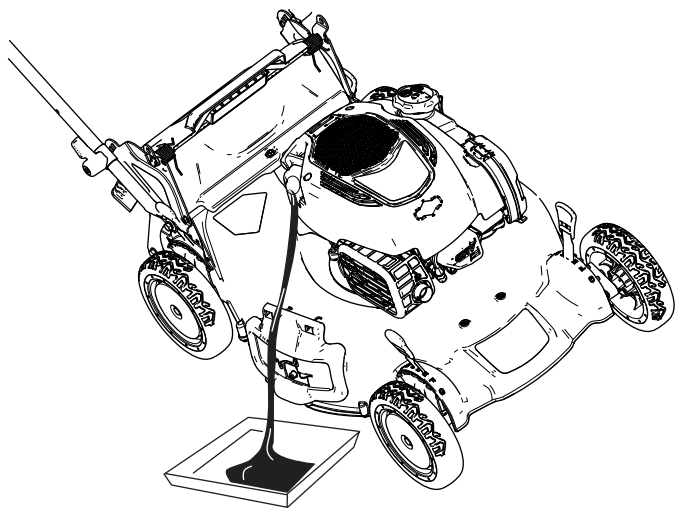

Figure 30
- 4. Tip the machine onto its side (so that the air filter is up) to drain the used oil from the oil-fill tube (Figure 30).